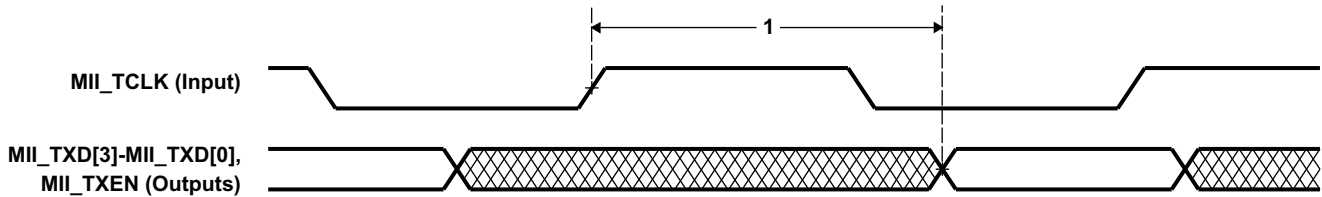

**Figure 5-49. EMAC Receive Interface Timing**
**Table 5-102. Timing Requirements for EMAC MII Receive 10/100 Mbit/s(1) (see Figure 5-49)**